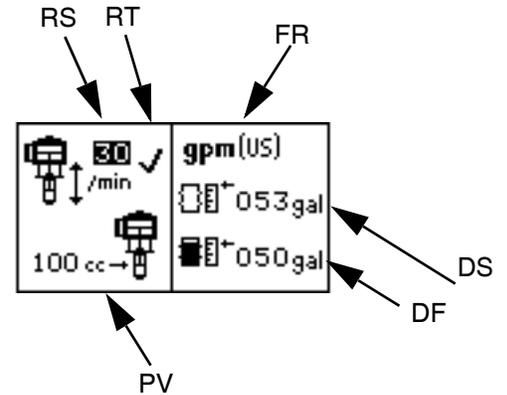

FIG. 7: Setup Screen 1
Use Setup screen 1 to set runaway cycle rate (RS), enable/disable runaway protection (RT), select pump volume per cycle (PV), select flow rate units (FR), enter drum size (DS), and enter drum fill volume (DF). See FIG. 7.
NOTE: When runaway protection is enabled (RT), a ✓ will appear on the setup screen. See FIG. 7.
NOTE: To disable runaway monitoring, go to setup mode and set runaway value to 0 (zero) or toggle (RT) off. See FIG. 7.